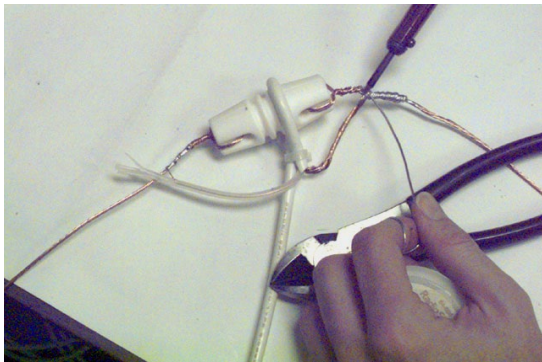

Figure 5.4 – Solder the shielding and center conductor to the copper wires.
7. ○ Solder the coax center conductor and shield to the copper wires (we recommend using a soldering gun or a soldering iron of at least 50-watt capacity). Use plenty of solder and heat the wires until the solder seeps into the wires. Apply heat all around the connection to achieve a good flow of solder (Figure 5.4).